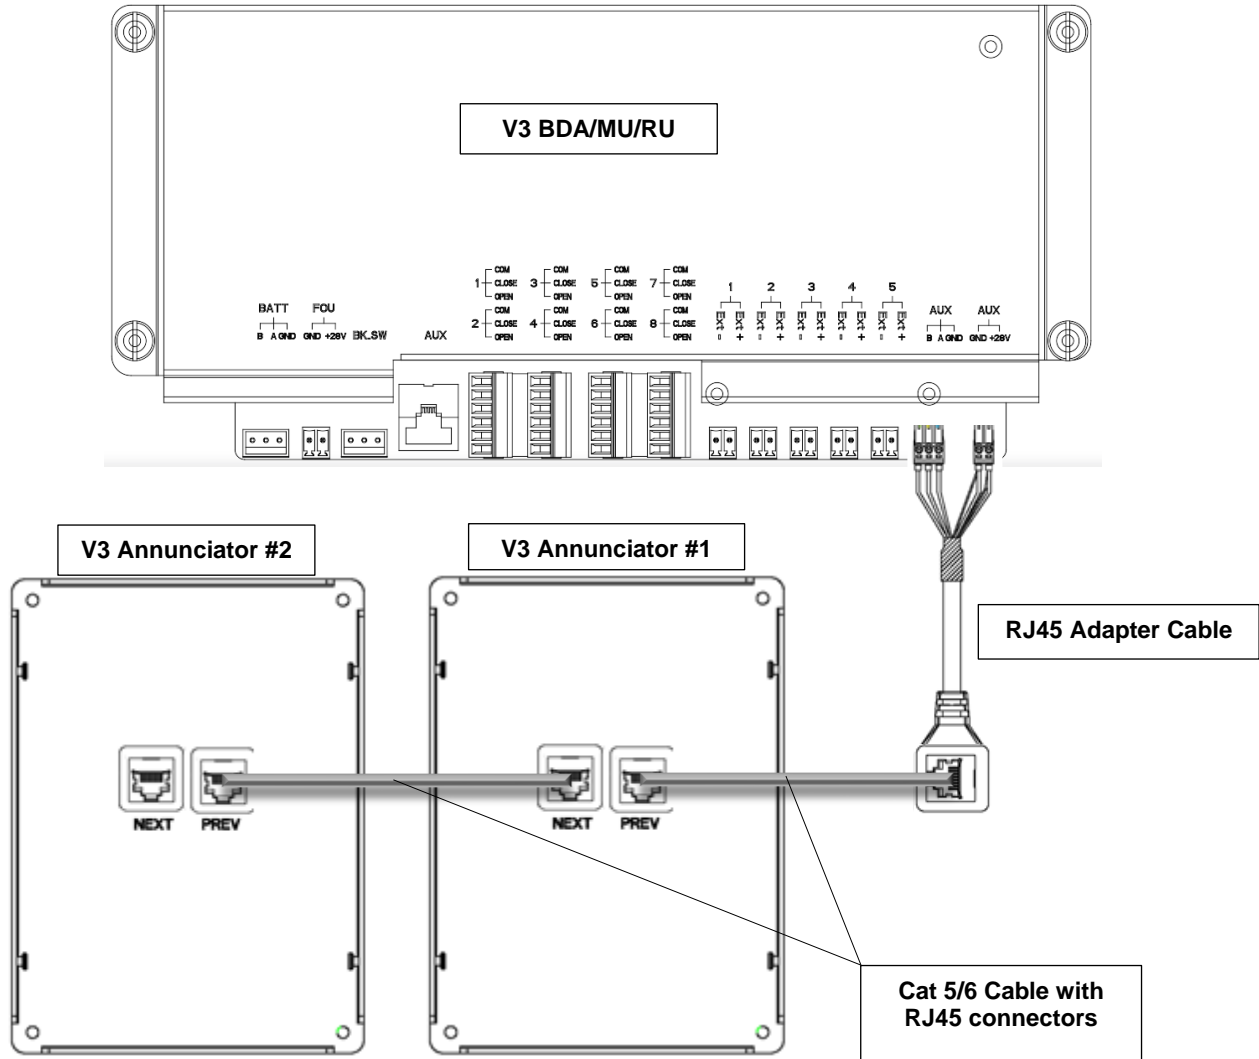

Figure 37: V3 BDA/MU/RU Wiring Connection to V3 AP
Follow the instructions below, and see Figure 37 below, to connect a V3 AP to the V3 BDA/MU or RU:
- Connect the RJ45 adapter to the BDA/MU/RU as shown in Figure 37 below.